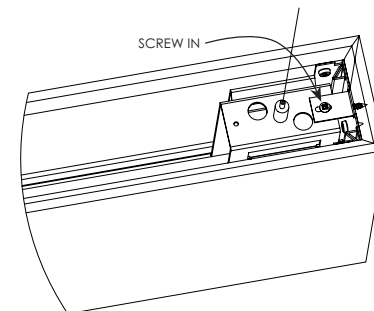

Fig. 8
12. Take self threading screw and use Philips head screwdriver to secure endcap trim panel to support bracket (See figure 8.)
18. Take self threading screw and use Philips head screwdriver to secure endcap panel to support bracket (See page 3 figure 8.)